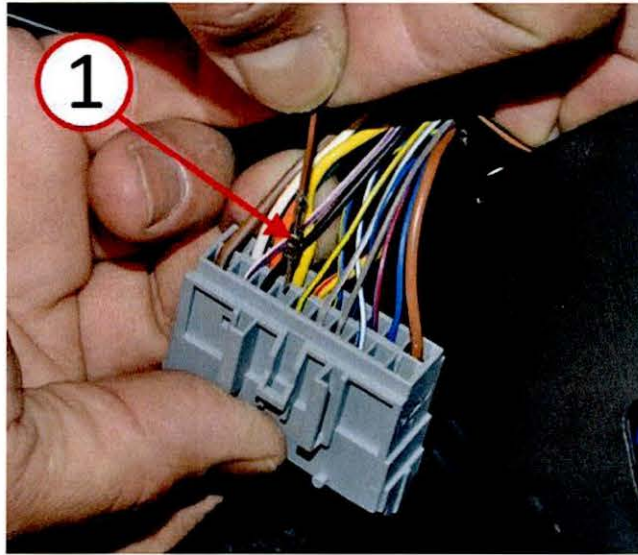

**Fig. 14 Electrical Connector Terminal Retainer**
19. Remove the red electrical terminal lock wedge from the body side electrical connector C153 (Fig. 14).